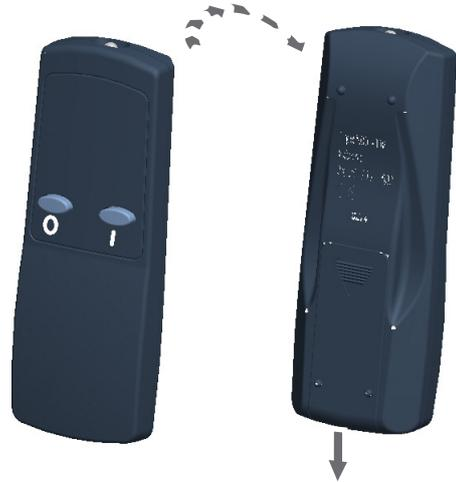

Fig.7
On the control panel, Switch A (see Fig.2) must be in the 'ON' (I) position in order for the remote control to operate. There are 2 buttons on the remote control. (See Fig.7)